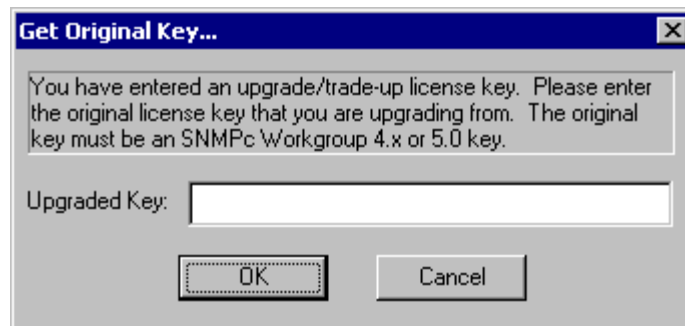

Figure 3-3. Get Original Key Dialog Box
8. Once you enter an upgrade key, the Get Original Key dialog box appears (see Figure 3-3).